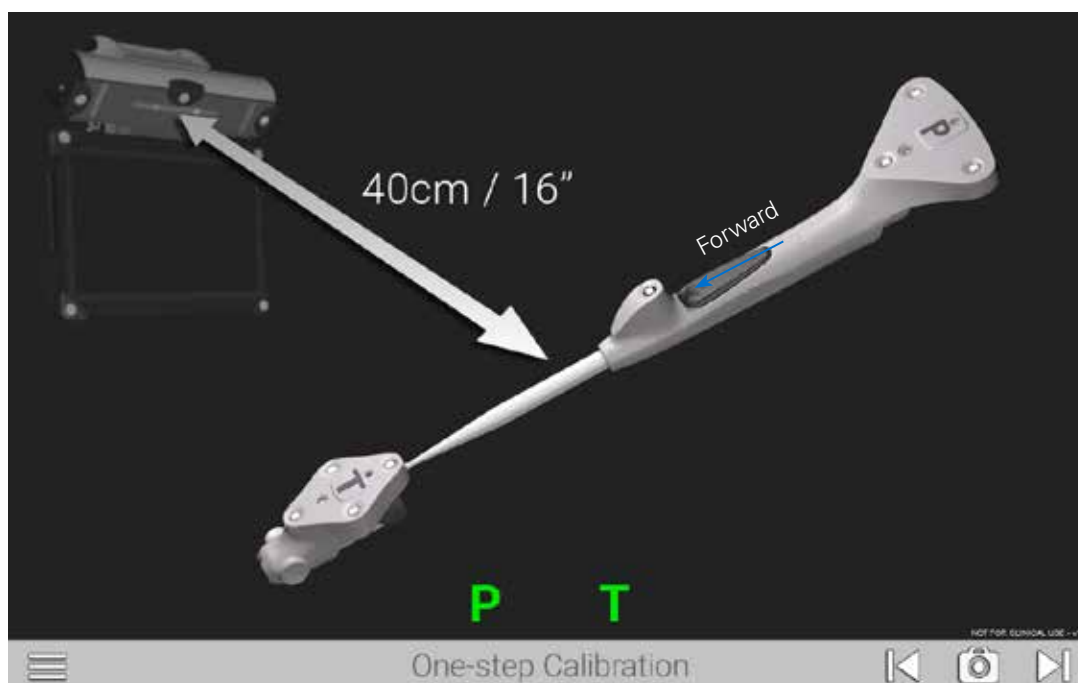

Figure 11
The One-Step Calibration screen is displayed (Figure 11). Place the tip of the Probe Tracker (P) into the dimple node at the top of the T Tracker. Hold both together no more than 16 inches from the display unit ensuring the white diodes are facing the camera.